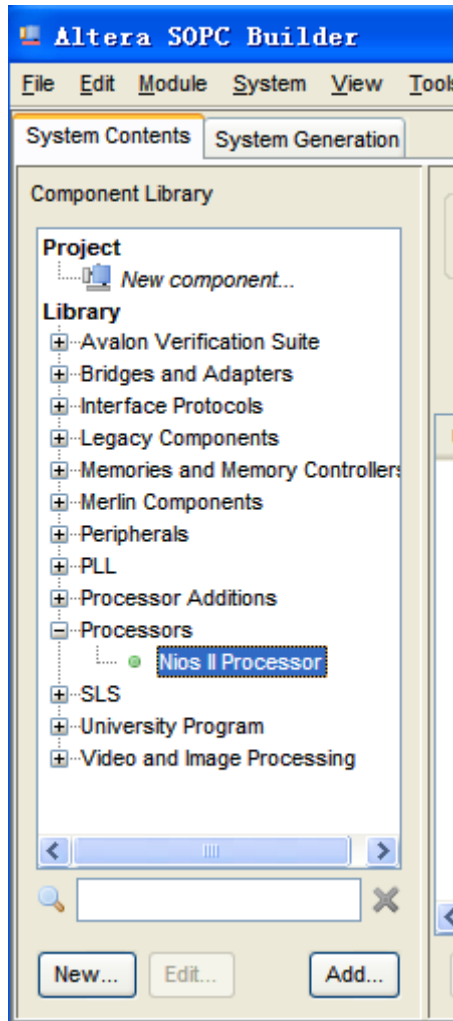
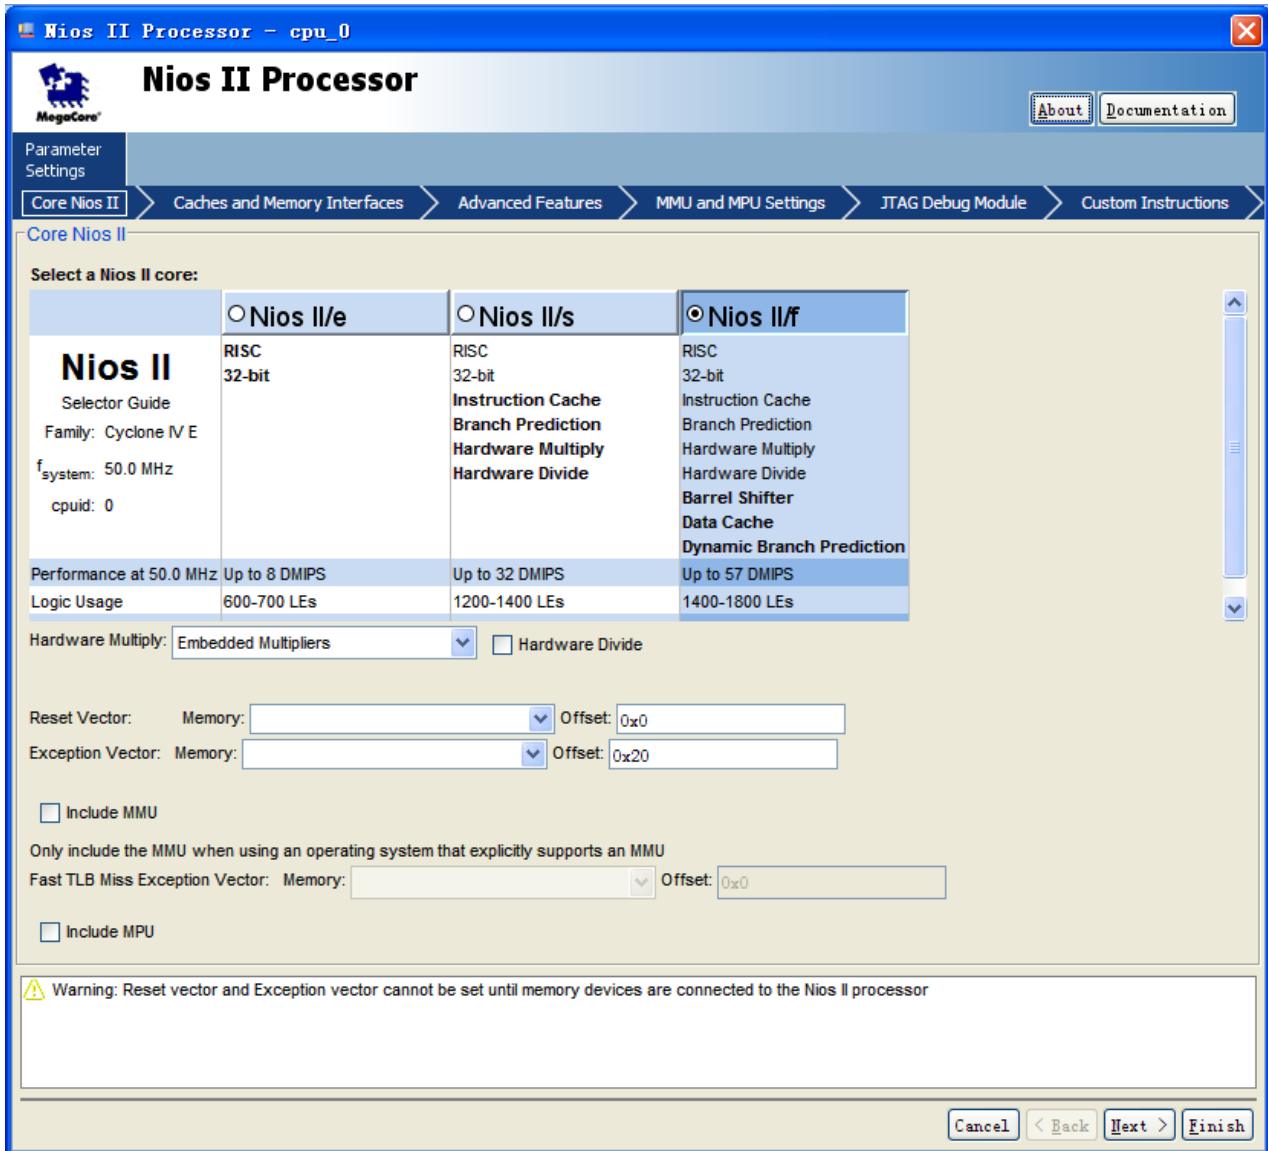

Figure 7-14 Add NIOS II Processor
Figure 7-15 Nios II Processor
8. Choose **Library** > **Processors** > **Nios II Processor** to open wizard of adding cpu component. See Figure 7-14 and Figure 7-15.